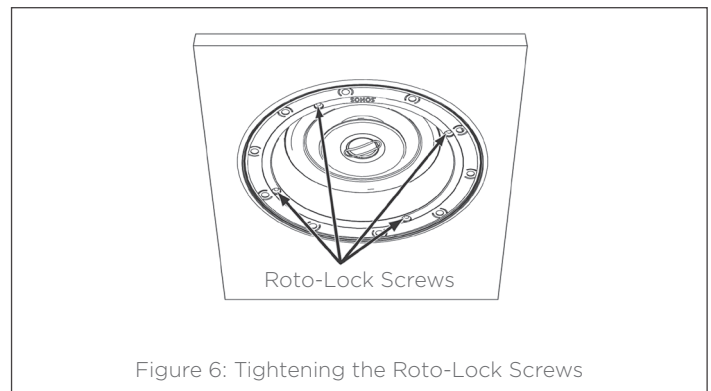

Figure 6: Tightening the Roto-Lock Screws
5. Tighten the screws on the front of the speaker baffle. The Roto-Lock toggle feet will automatically rotate into position and begin clamping the speaker (see Figure 6). When you notice resistance on the screws the speaker has been clamped successfully.